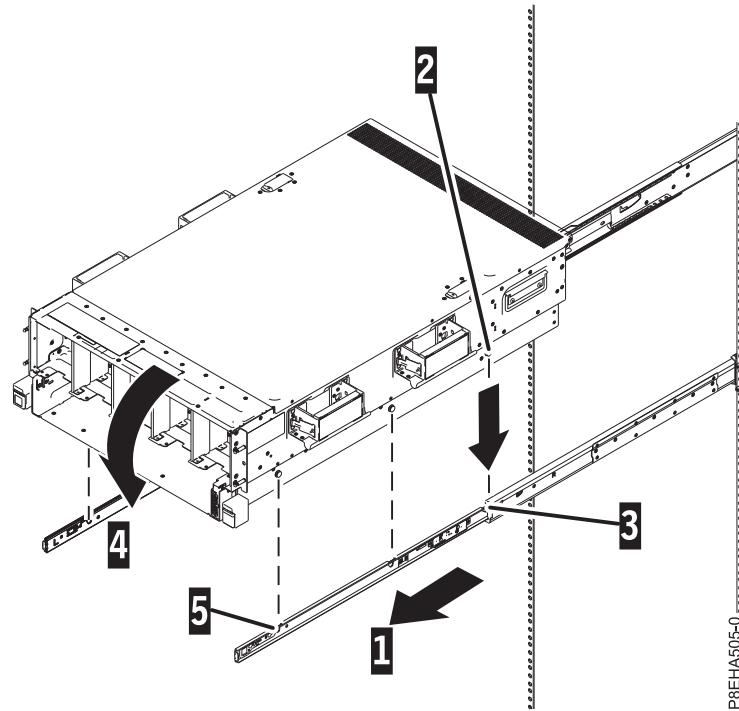

Figure 11. Installing the chassis onto the mounting hardware
1. Extend the mounting hardware (1) as shown in Figure 11 on page 11.
4. Tilt the front of system up so that the rear chassis pins (2) insert into the rear holes on the mounting hardware (3), as shown in Figure 11.
5. Tilt the front of the system down so that the chassis pins are inserted into the front (4 and 5) and middle holes in the mounting hardware, as shown in Figure 11.